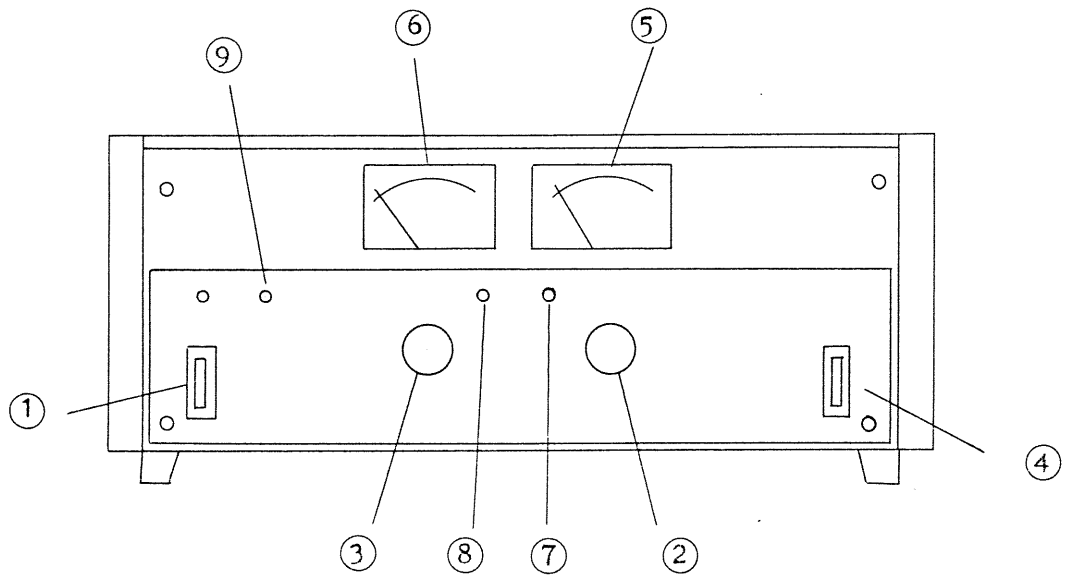

Fig. 3-1 Front panel
3.1 Explanation of Front Panel (Refer to Fig. 3-1.)